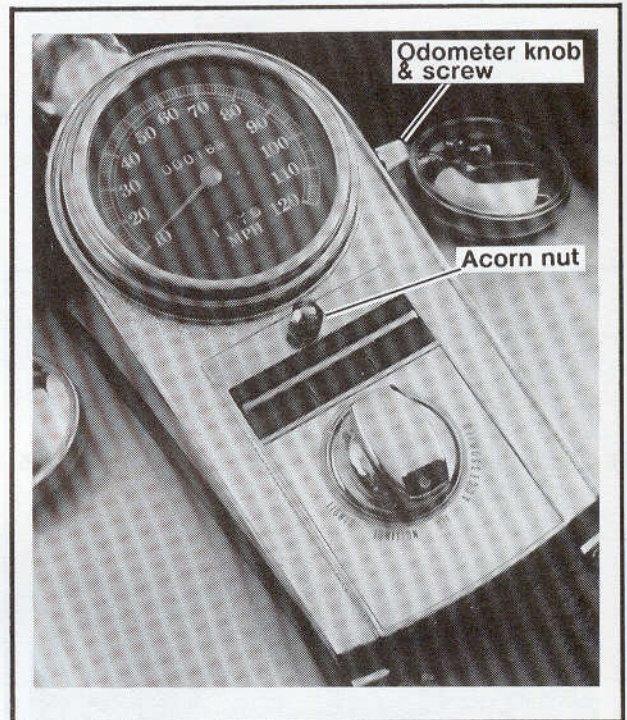

Figure 2-84. Speedometer -Softtail Models
1. See Figure 2-84. Remove the odometer screw (1) and knob.